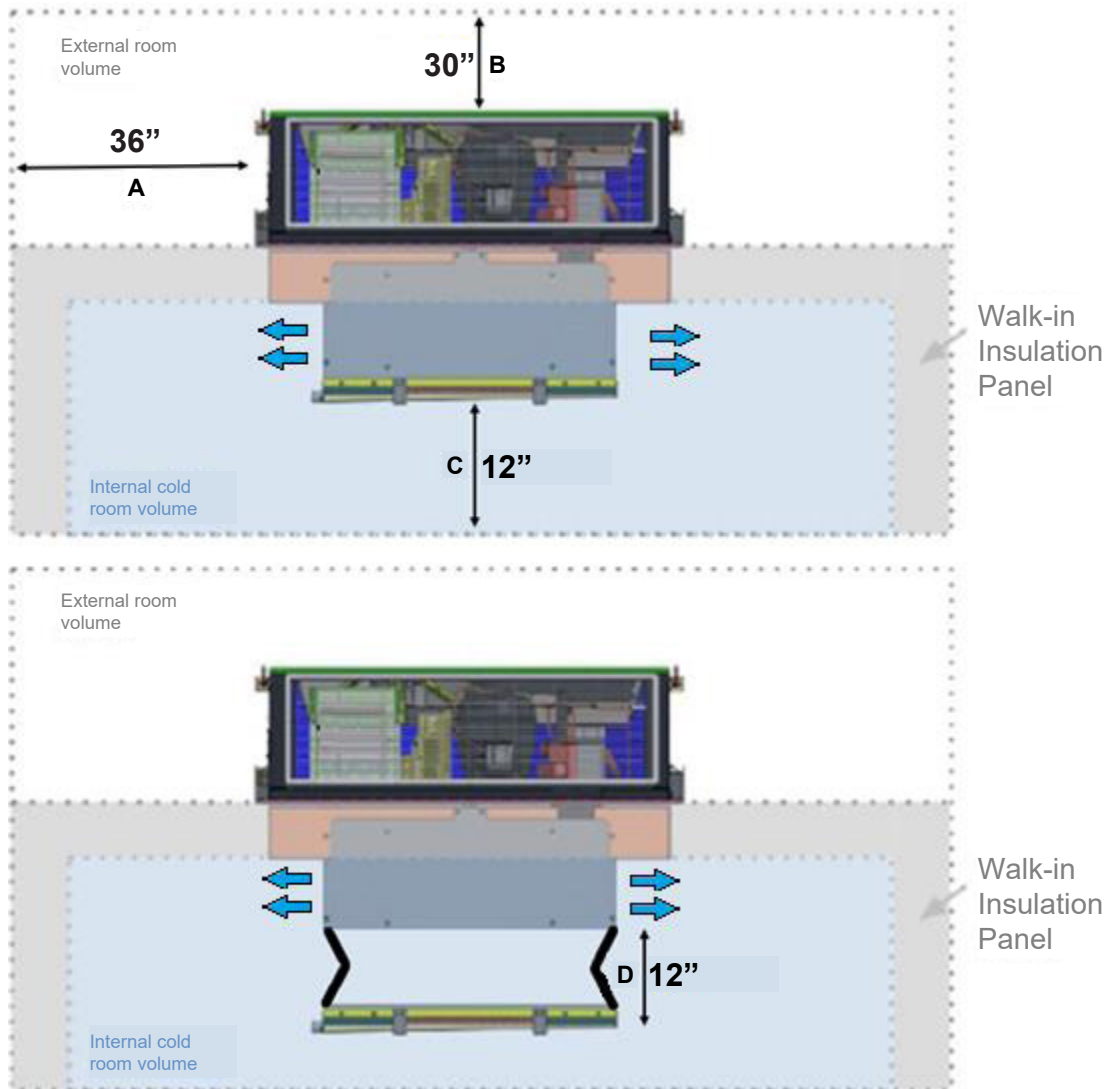

Figure 5 – Service Access Dimensions
- For service purposes, the recommended minimum distances are shown in the Figure 5: